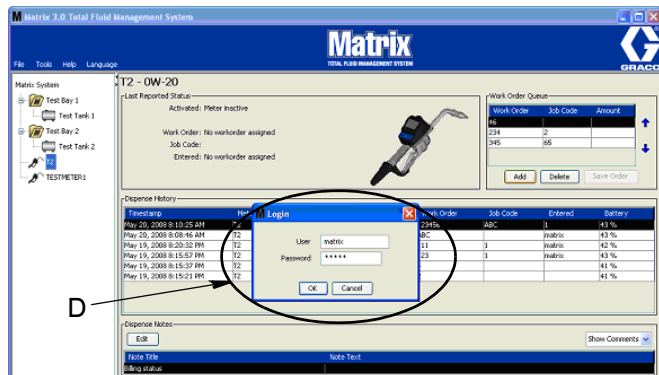

FIG. 201
3. In the pop-up box (D) (FIG. 201) type in your user name and password. Click OK.